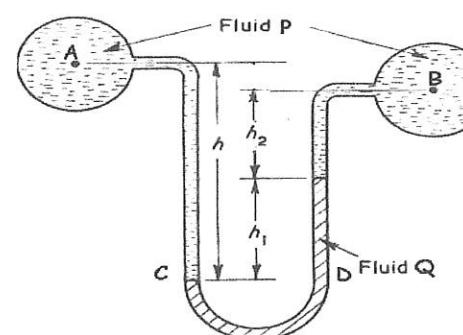

Figure Q2(b)
- b) A U tube manometer measures the pressure difference between two points A and B in a liquid P (refer to Figure Q2(b)). The U tube contains mercury.